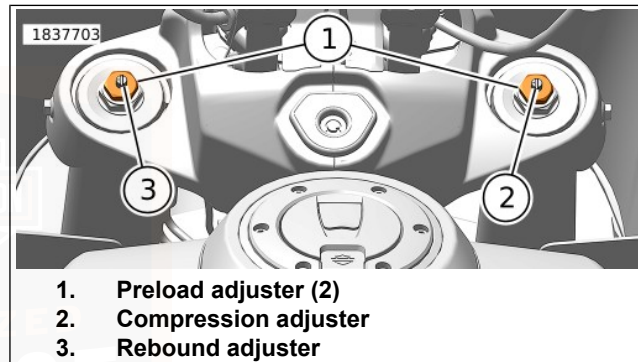

Figure 16. Front Suspension Adjusters
See Figure 16.
See Figure 16. The compression adjuster (2) screw is located on the top of the right side fork tube.
See Figure 16. The rebound adjuster (3) screw is located on the top of the left side fork tube.
See Figure 16. The preload adjuster (1) is located on the top of each fork tube.